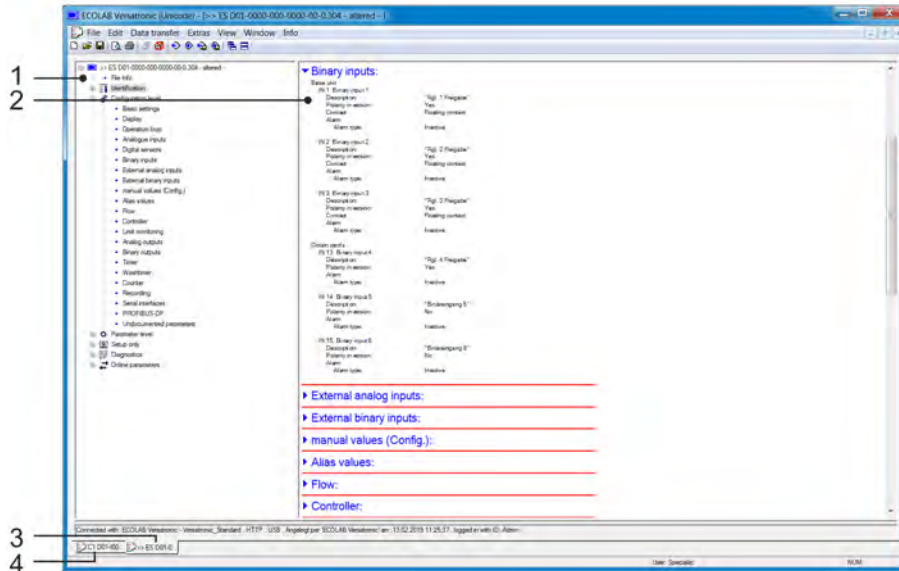

Fig. 105: Edit setup file
1. ► Place the cursor between two icon groups (see Fig. 105 .)